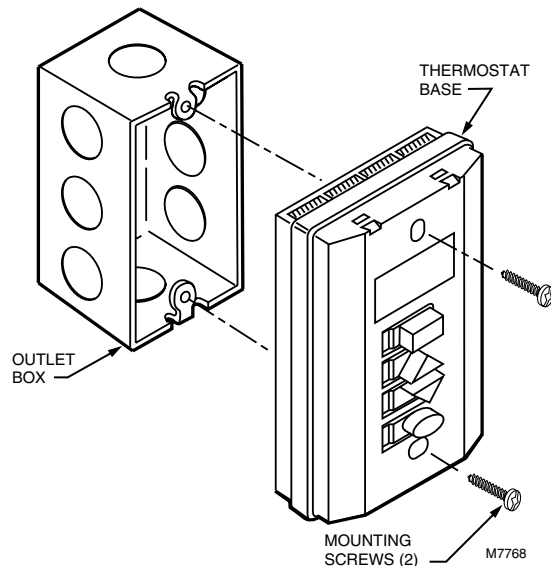

Fig. 4. Mounting thermostat to outlet box.
7. Mount the thermostat on the outlet box as shown in Fig. 4. Secure the thermostat by tightening the two mounting screws.